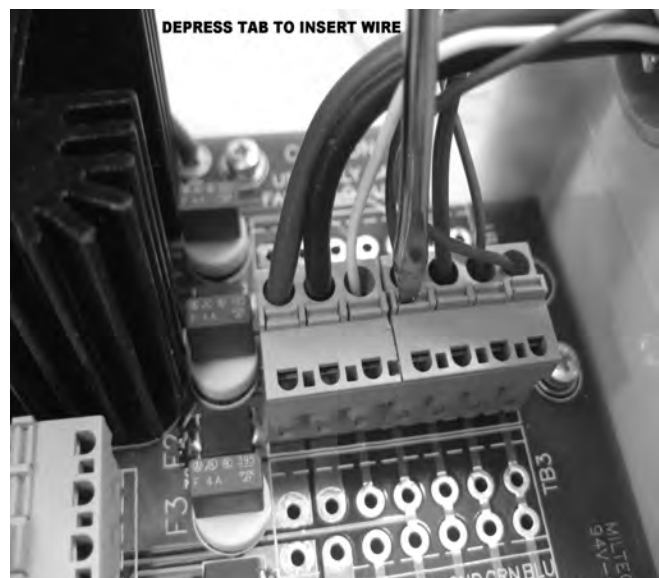

Figure 15: Install Source Cable Wire
5. To install wire into the terminal block, take a small flat head screw driver and push down on the tab adjacent to the connection point. See figure 15